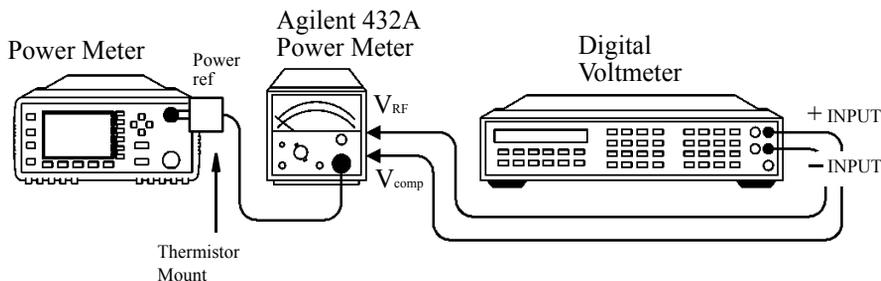

Figure 3-3: Adjustment Setup
2. Round off the DVM reading to two decimal places and record this value as the internal bridge resistance (R) of the test power meter (approximately 200 Ω).
3. Connect the equipment as shown in Figure 3-3. The leads should be isolated from ground. Ensure that the power reference oscillator is off. Ensure that both the power meter under test and the Agilent 432A have been powered on for at least 30 minutes before proceeding to the next step.